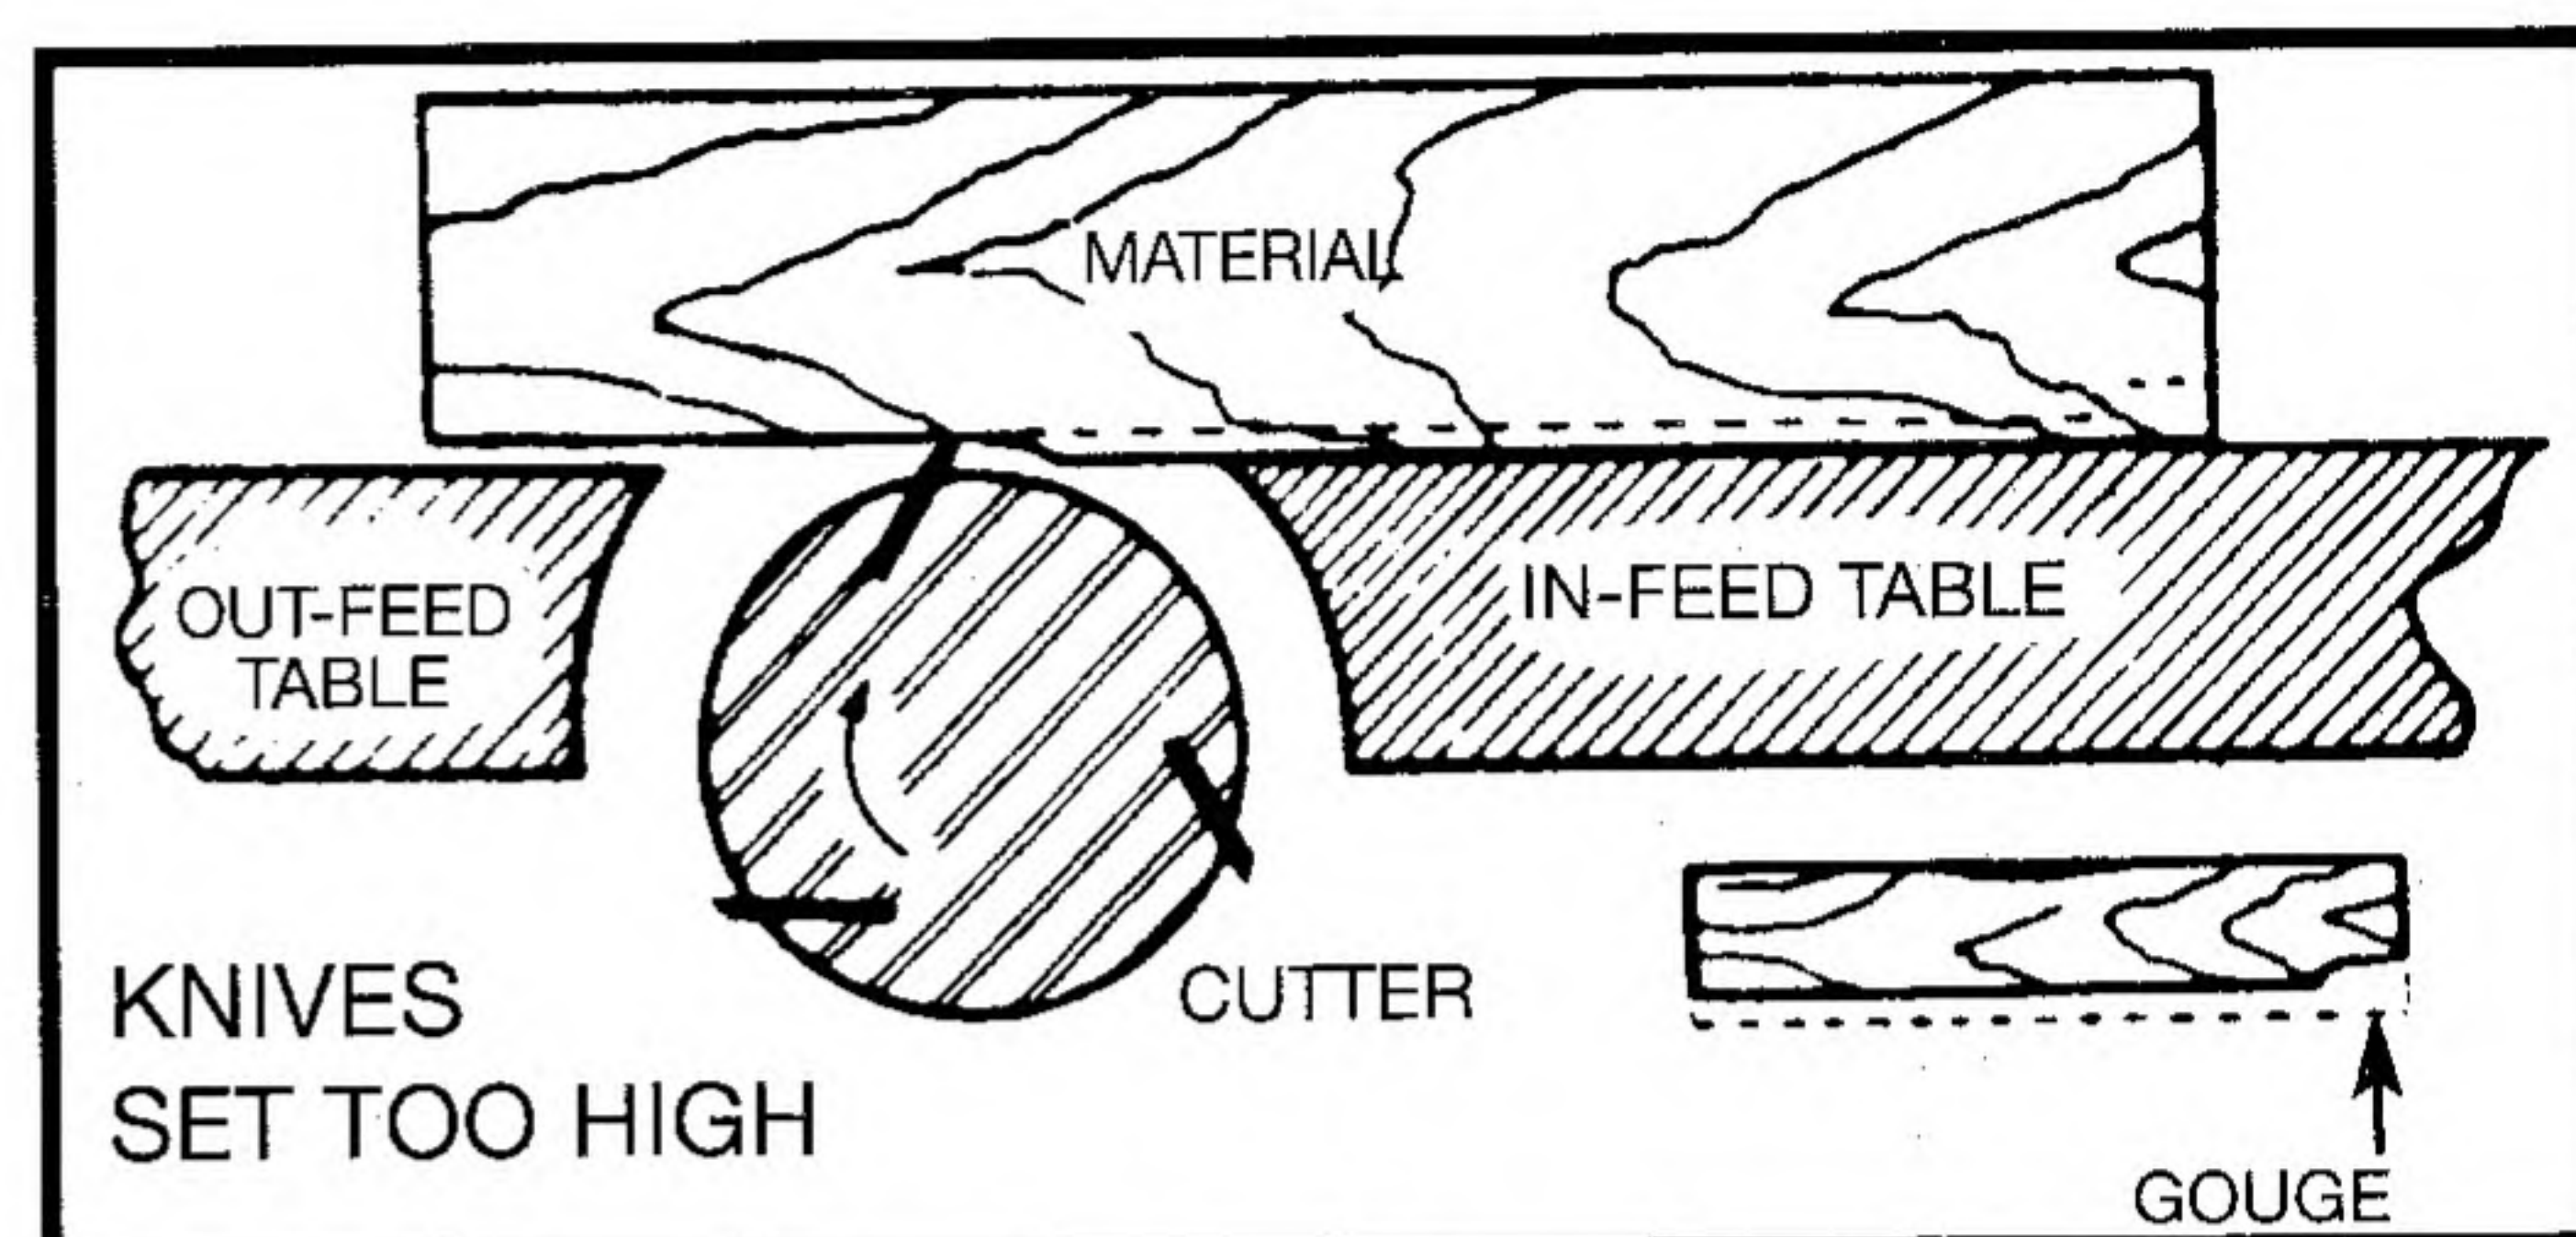

Fig. 33
7. If the knives are set too high, the work will be gouged at the end of the cut, as shown in Fig. 33.